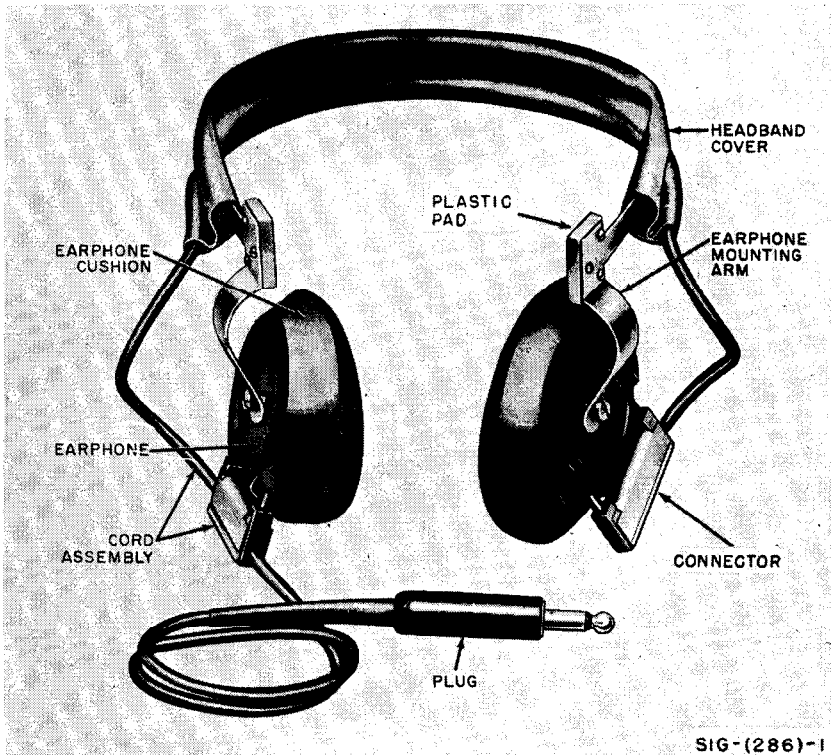

Figure 1. Headset H-113/U.
4. Description. Headset H-113/U (fig. 1) consists of two earphones which are mounted on an adjustable headband, and a connecting cord and plug. The earphones are provided with rubber ear cushions. The cord extends approximately 18 inches from the right-hand earphone, and is terminated in a plug. The headset has an impedance of 600 ohms at 1,000 cycles per second.